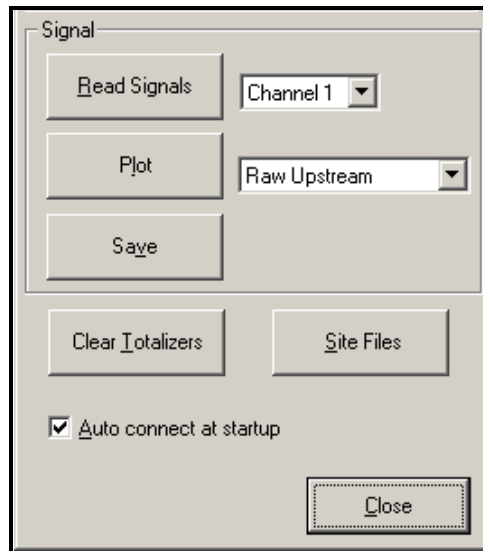

Figure 7: Active Signal Options
1. To read a signal from the meter, click on the [Read Signals] button. (If the meter is a multi-channel instrument, open the Channel drop-down menu and click on the desired channel.) After a moment, the *Properties* window appears similar to Figure 7.